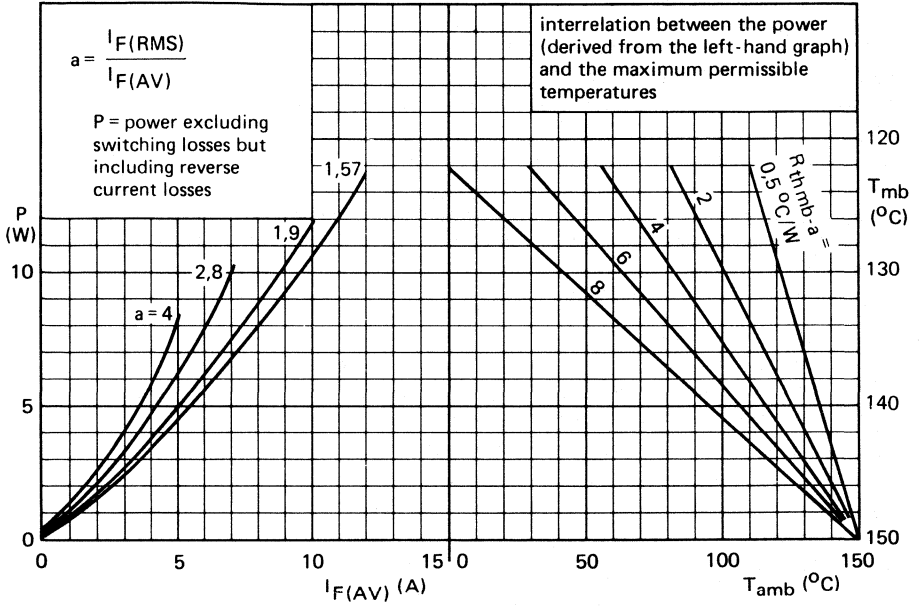

Fig.5
- b. The method of using Figs. 5 and 6 is as follows: